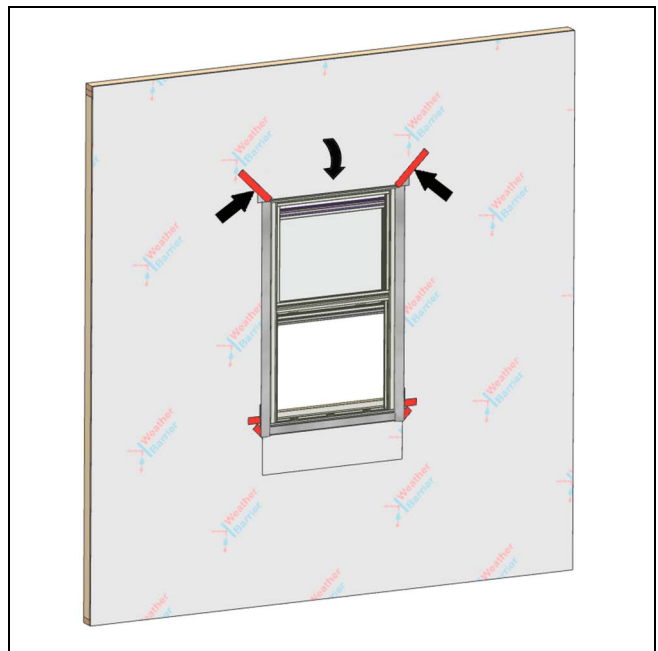

Figure 25
5. Fold the head jamb WRB down over the head jamb flashing. Apply seam seal tape over the diagonal cut in the WRB. Make sure the seam seal tape laps onto the unit or casing. Tape any seams and fasteners directly above the unit with seam seal tape. See Figure 25.